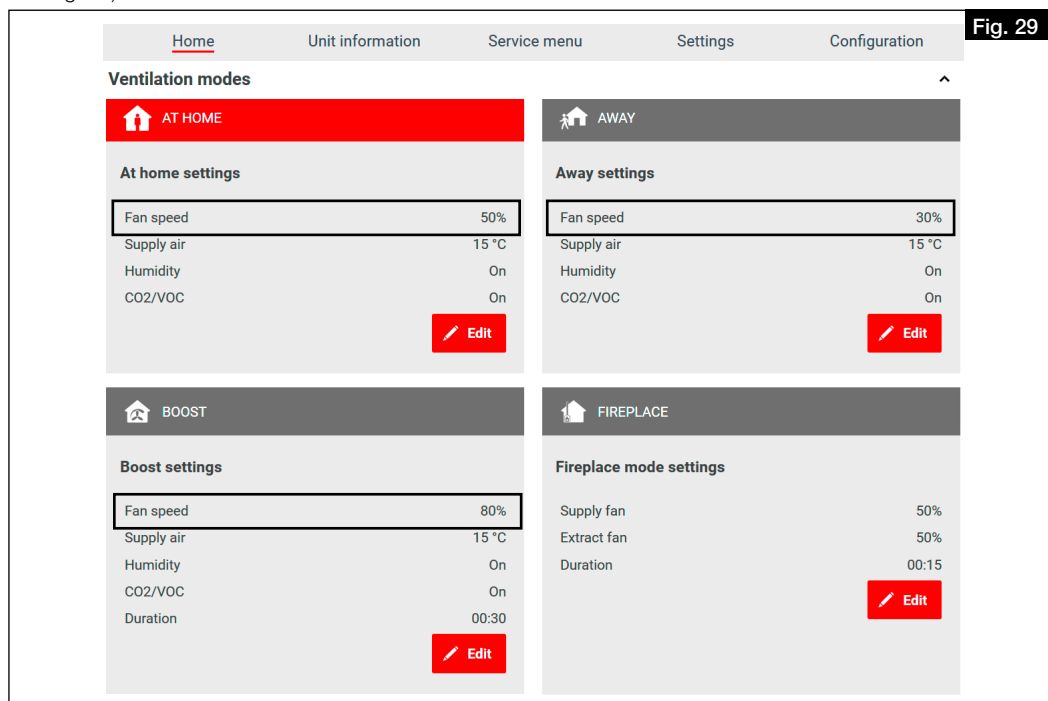
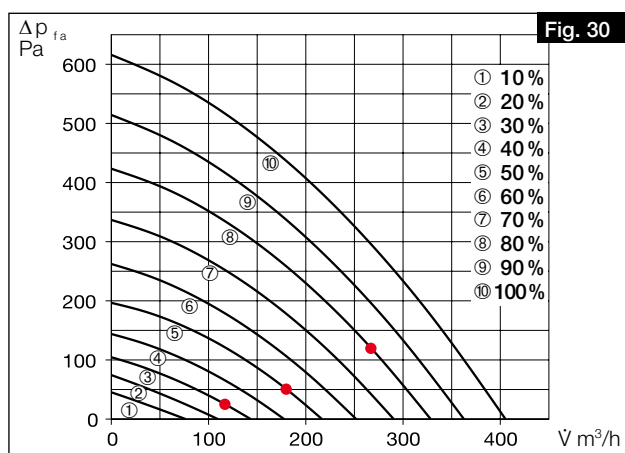

Fig. 29
Fig. 30
- ① Ensure approx. 20 cm straight settling section up to the measuring connectors!
2. Enter the following values for the fan powers in the respective ventilation profile via the easyControls software or the control element KWL-BE Touch: **Away**: 30 % / **At home**: 50 % / **Boost**: 80 % (cf. Fig. 29).
4. Enter the determined differential pressures from the supply and intake air measurement in the unit characteristic curve for supply air (see Fig. 24 and Fig. 26) according to the fan outputs saved in the ventilation profile (cf. Fig. 29 and Fig. 30).
5. Enter the determined differential pressures from the extract and exhaust air measurement in the unit characteristic curve for extract air (see Fig. 25 and Fig. 27) according to the fan outputs saved in the ventilation profile (cf. Fig. 29 and Fig. 30).